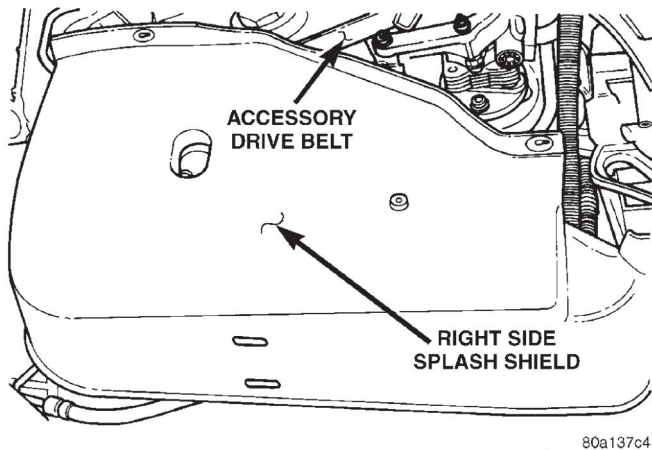

Fig. 39 Splash Shield
- (1) Disconnect battery.
- (2) Raise vehicle on hoist.
- (3) Remove right splash shield (Fig. 39).
- (4) Remove both accessory drive belts. Refer to Group 7, Cooling.